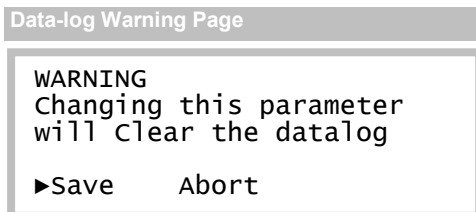

Figure 40 - Data-log warning page
Referring to Figure 40, push the calibration adapter onto the exposed end of the sensor and connect one end of the tubing (1), connect the other end of tubing to the cylinder’s regulator (2). Do not open the gas valve until instructed below.